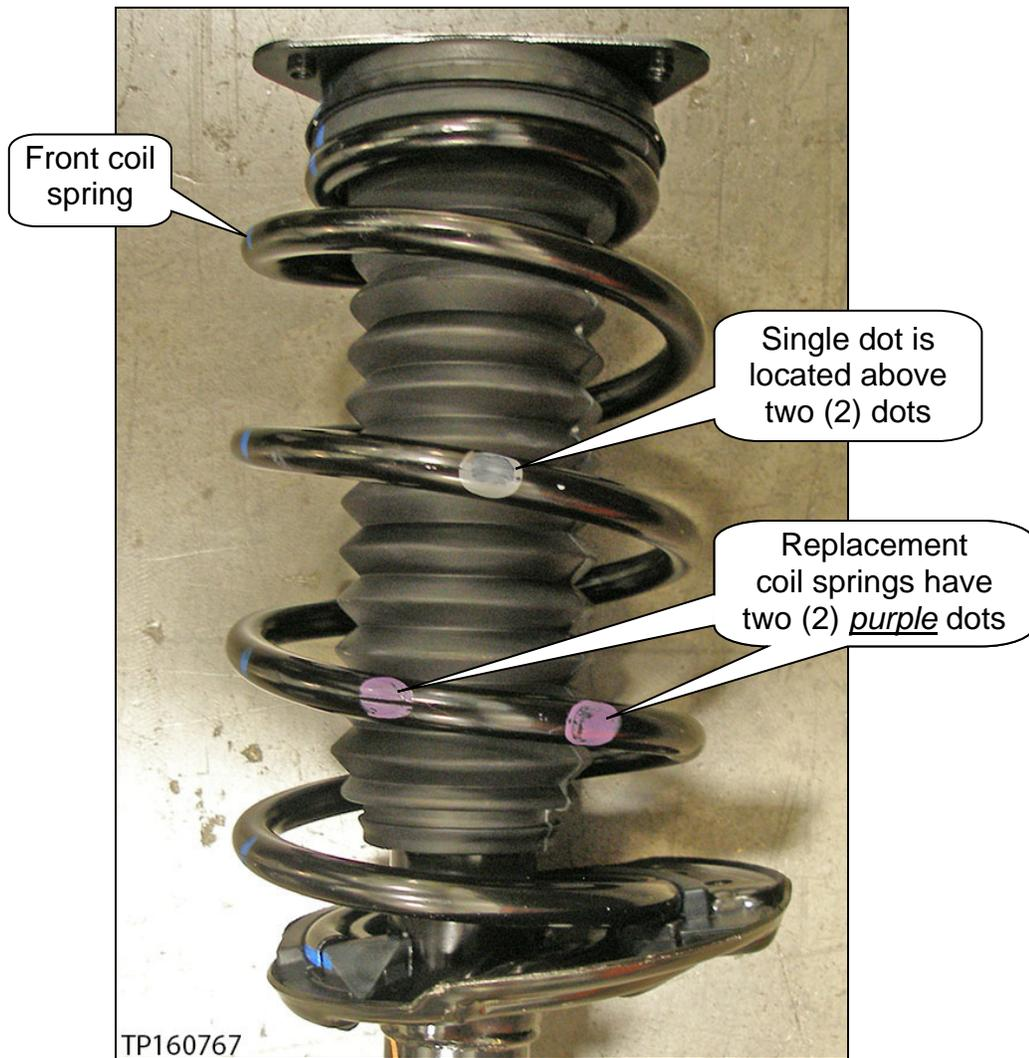

Figure 4
- With the coil spring installed, the single dot must be ABOVE the two dots (see Figure 4).